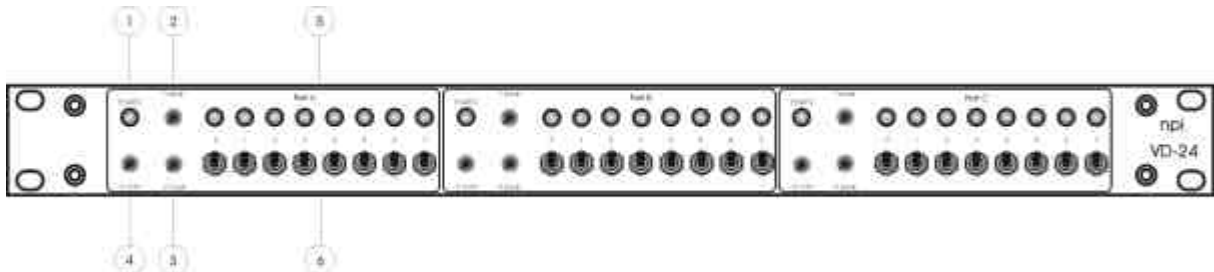

Figure 3: Front panel view of the VD-24-03
- Set the peak voltage with the potentiometer labeled V_{peak} at the front panel (#3, Figure 3).
- Set the duration of the peak voltage with the potentiometer labeled T_{peak} at the front panel (#2, Figure 3).
- Set the holding voltage with the potentiometer labeled V_{hold} at the front panel (#4, Figure 3).